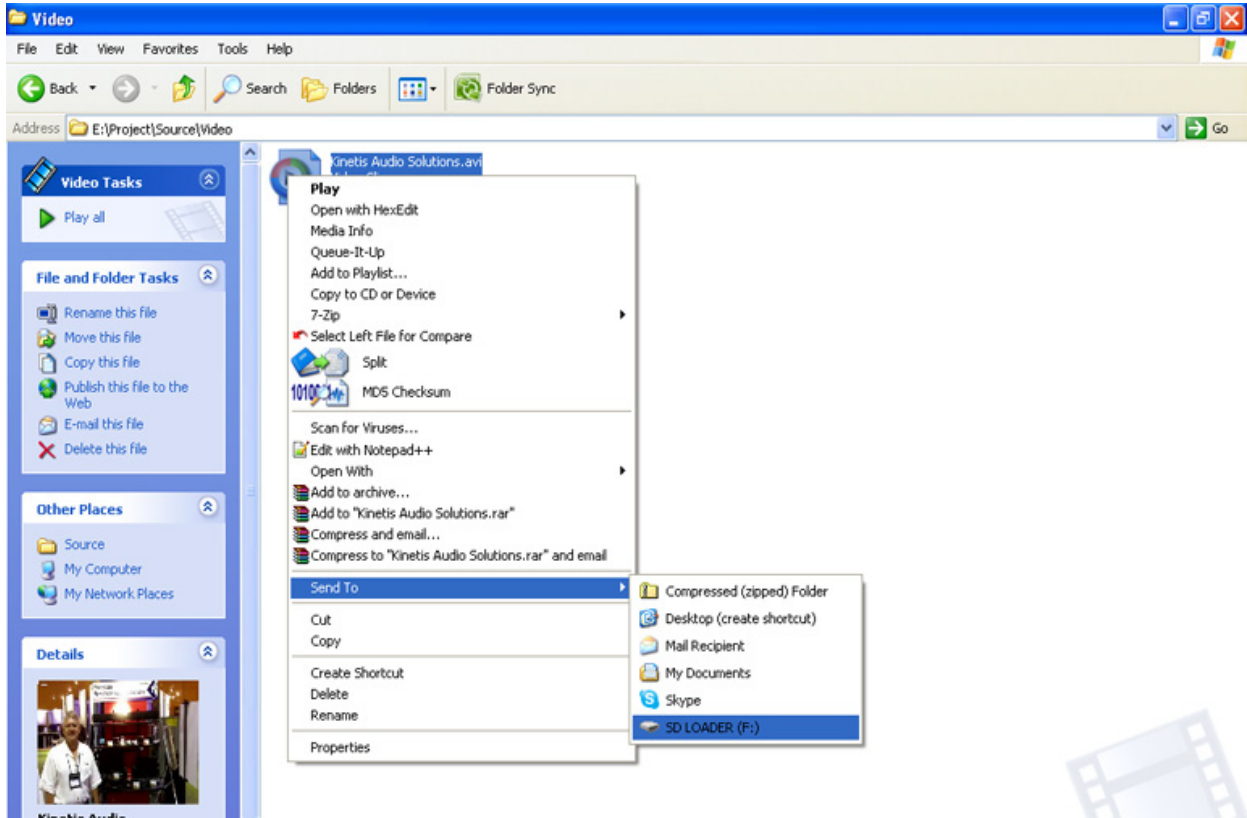

Figure J-12. Send video to SD loader
6. Send your video to SD as following Figure J-12